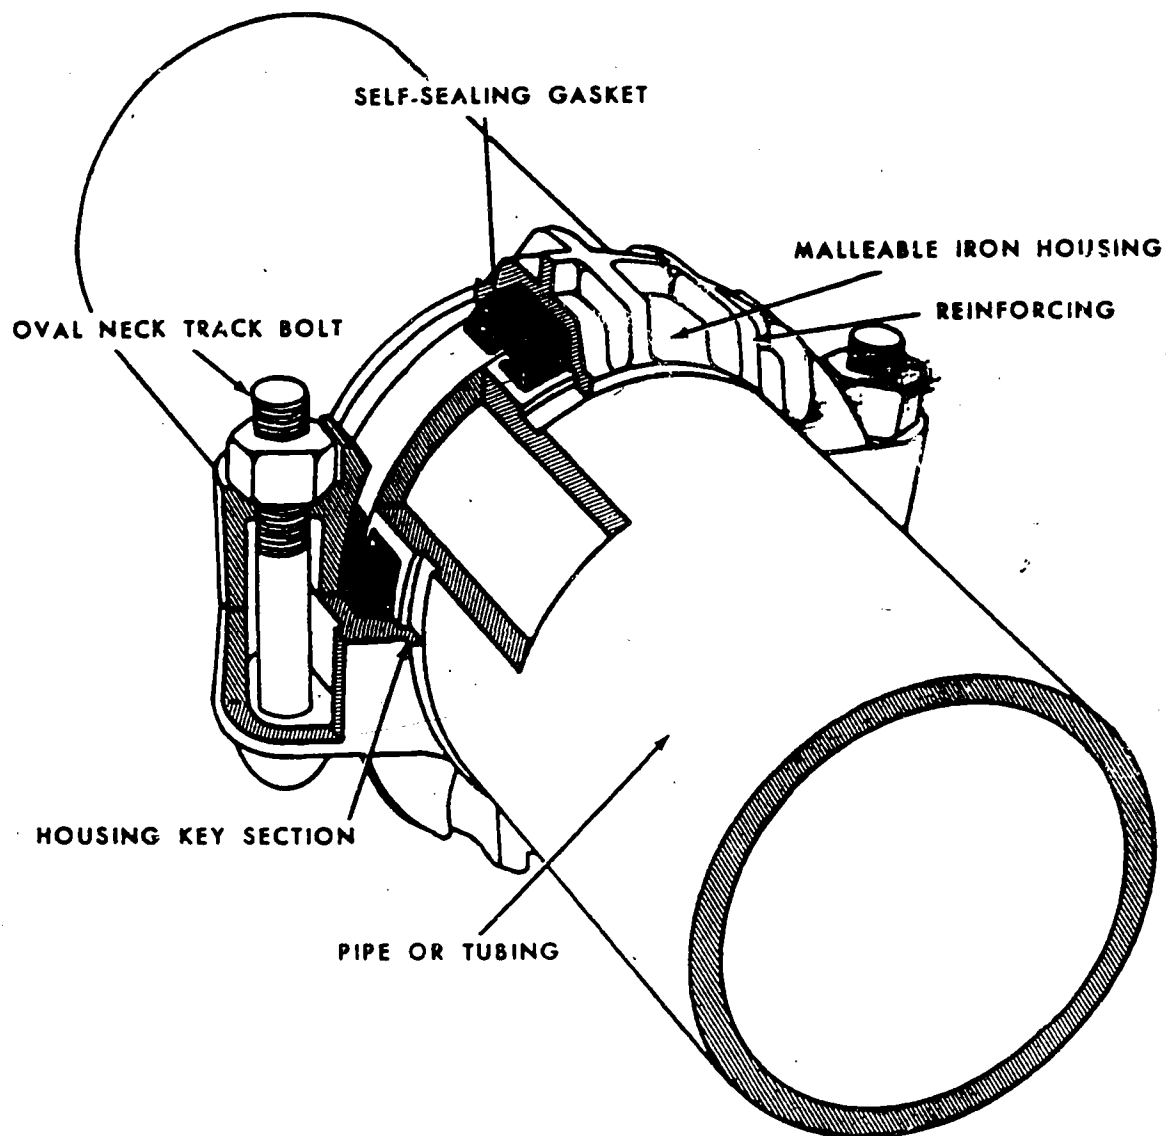

Figure 1
1. Lightweight Tybing: Look at the displayed sample. See the thickness of the pipe wall? This pipe is used in military combat pipelines (temporary). It's relatively light weight and since it comes in standard 20 foot lengths it's fairly easy to handle. This pipe is commonly joined - one section to another - by using a grooved coupling. See the coupling on the display - it is called a split ring groove-type coupling (See figure 1 in this program). As you can see from the figure there is a rubber gasket placed over the joint between the 2 pipe sections then the housing is bolted on. About the only thing that you have to do in the way of maintenance on this type of coupled pipeline is to look for leaks and:
- a. Righten the "oval neck Track Bolt. (See Fig. 1) If this doesn't stop the leak you have to:
- b. Replace the "self sealing gasket". (See Fig. 1)
Lets take a look at a simple two tank manifold. Pull Figure 1 out of your program and look at it. Assume that all valves in the manifold (1, 2, 3, 4, and 5) are closed. Try to trace the flow of fuel from Tank #1 through the manifold to the transfer pump and out of the Terminal to the outgoing pipeline. Write the numbers of the valves you must open down here _____.
Look at Figure 1 again and write down the valves you open to move product from Tank #1 to Tank #2. _____